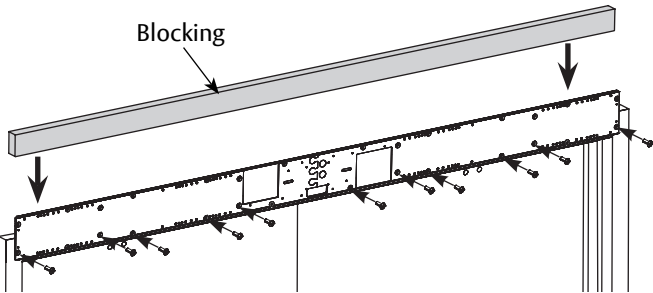

Figure 7
- 1. Secure backplates to frame using eleven (11): 1/4-20 x 5/8" machine screws or 1/4 x 1-1/2" self-drilling screws from screw packs in Boxes 1 and 2. (Figure 7)
NOTE: It is important to properly secure top edge of backplate. Use of blocking (supplied by others) or shims (provided) to fill gap between backplate and wall above header is **HIGHLY** recommended. Material must comply with local codes. Failure to properly secure top of backplate could result in operator being allowed to 'rock' during operation. This could result in damage to operator and diminish operator function. (Figure 7)